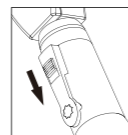

fig.1
1. Turn on (or off) the device by pushing downwards (or upwards) as **fig.1**;